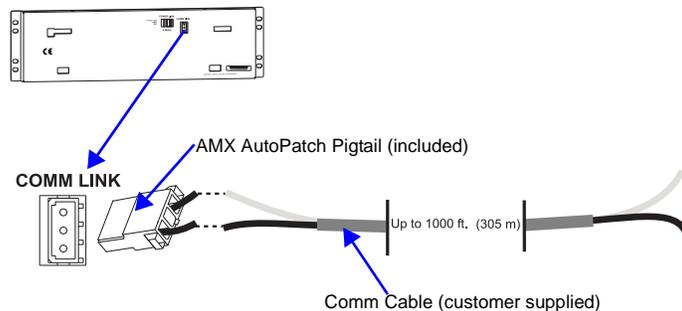

FIG. 3 Comm Link connector and wiring of cable
1. Attach the two wires of the AMX AutoPatch pigtail to the communication cable (FIG 3).